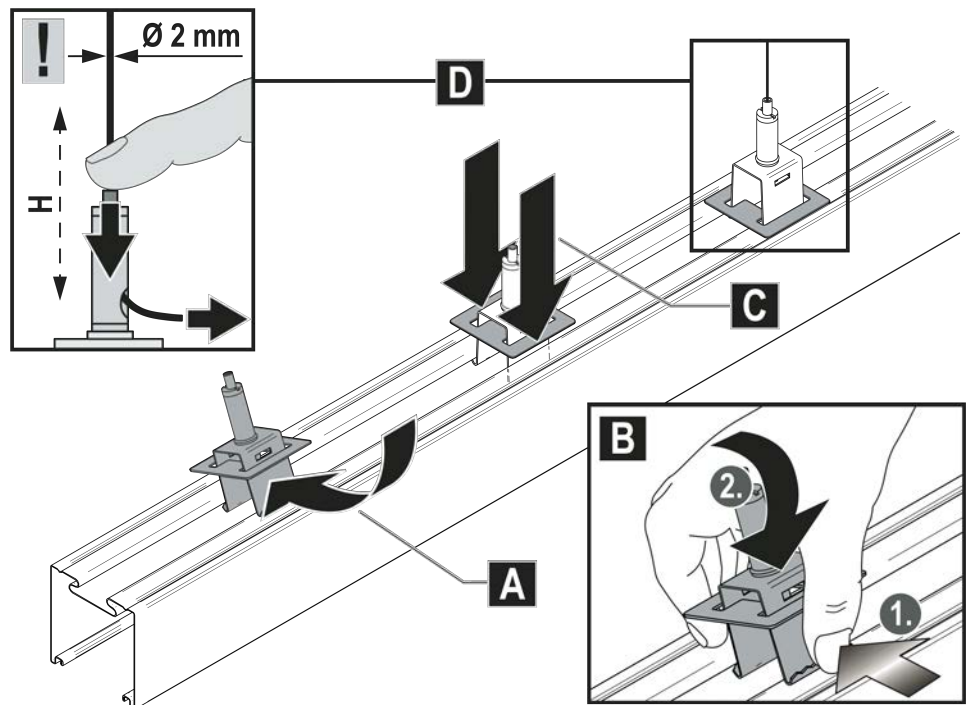

Figure 4
- Mounting Brackets should be placed on the trunks in their approximate location. They will be placed in exact locations later. (Please refer to the *Baldur Suspension Spacing Schedule*). Mounting Brackets are installed as shown in Figure 4.